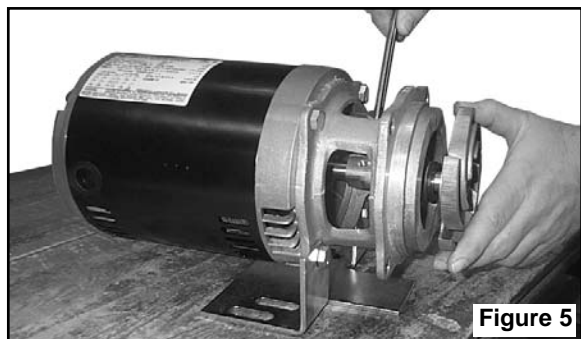

Figure 5
3. Leave the wrench on flats of stub shaft and unscrew the impeller by turning counterclockwise when facing the impeller (Figure 5).